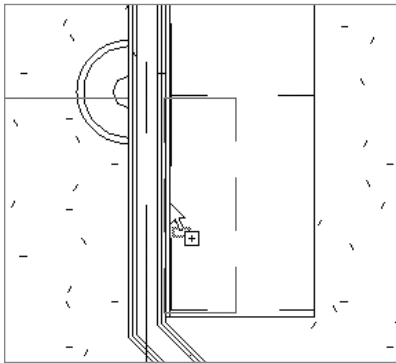

FIGURE 9.61 The base cabinets are filling the run.
8. Move the base cabinet so there is a 1" counter overhang, as shown in Figure 9.61.